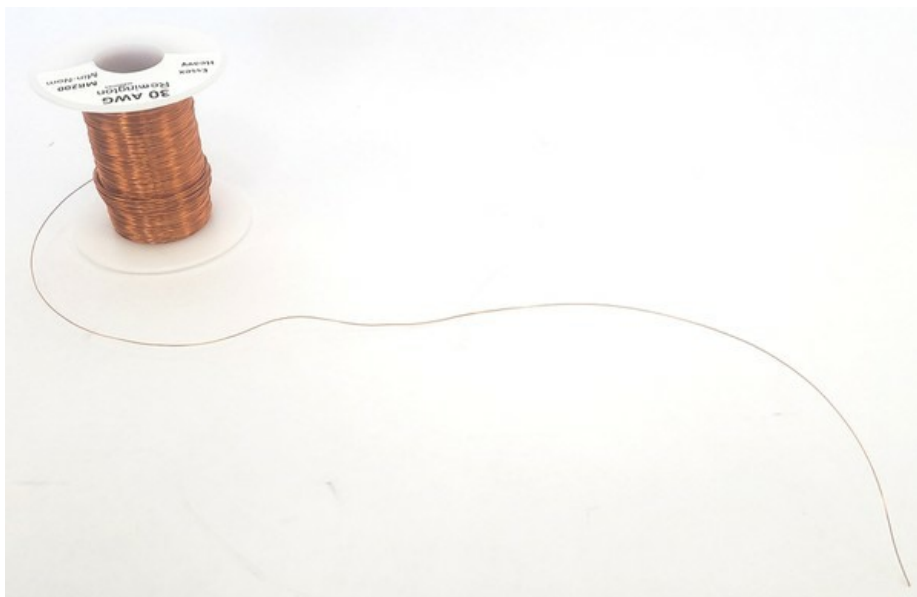

Figure 6. Spool of wire with about one foot of wire pulled out.
5) Pull about 1 foot (30 cm) of wire from the spool of magnet wire (Figure 6). This extra length of wire will be used later to connect to the speaker.